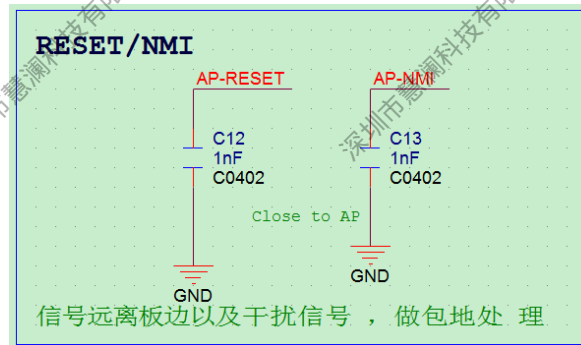

Figure 2-11 Reset and Interrupt Circuit Design
- The AP-RESET and AP-NMI need to connect to 1 nF grounded capacitors. Do not delete or change to other capacitance, or else it will affect the normal startup of the system. The reset and interrupt signals need to be far away from board edge and interference signals and surrounded with GND traces, as shown in Figure 2-11.